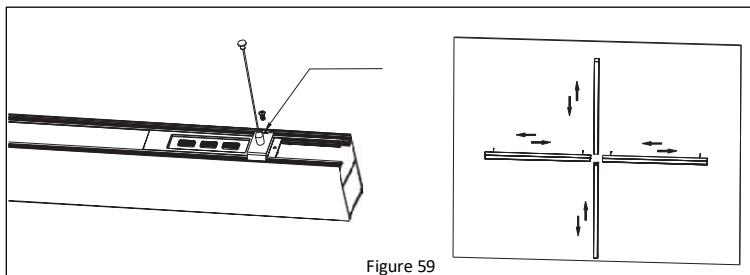

Figure 59
4. Adjust the lifting bracket in the fixture to a suitable position for suspending and linking. *See Figure 59.*